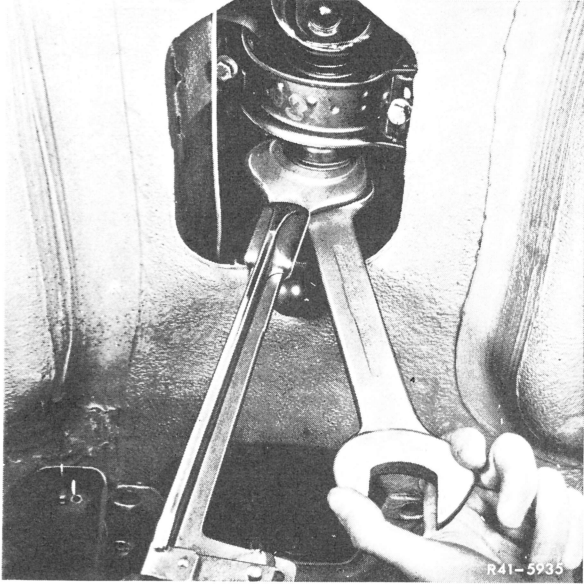

Fig. 8
- 28 Move vehicle several times back and forth in condition ready for driving, then tighten clamping nut on propeller shaft to 30–40 Nm (3–4 kpm) (Fig. 8).